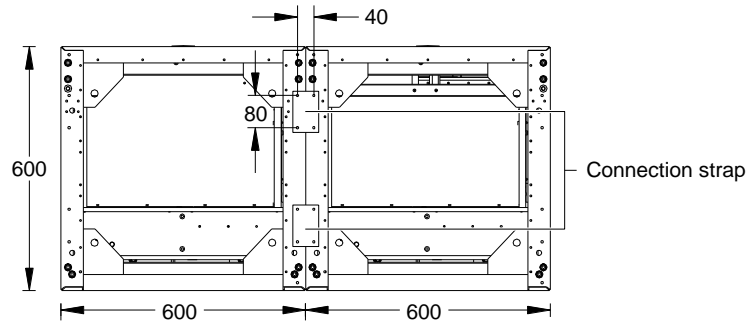

Figure 3-5 Parallel connection between cabinets (top view, unit: mm)
3. Use the connection straps to fix adjacent cabinets at the top, as shown in Figure 3-5. The connection straps are accessories.